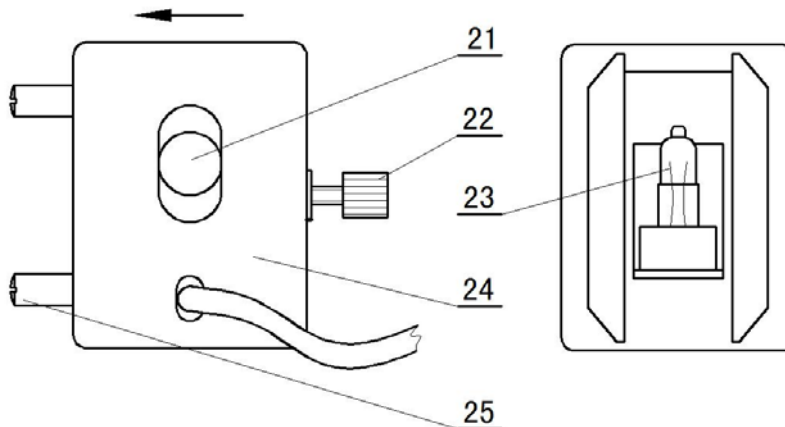

Fig 7
3. If the light source is not satisfied, fasten the Screw Two in clockwise direction to make the light beam in the vision field equality. (You can loosen the Screw Three and then fasten the Screw Two if it is necessary.) (Fig.7)